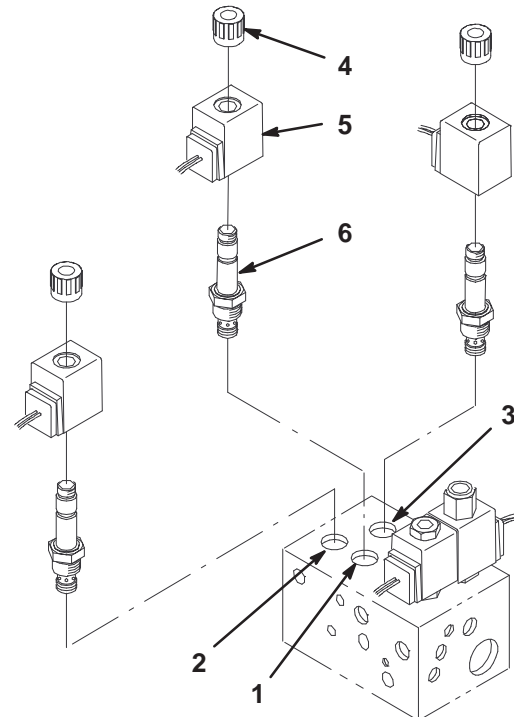

Figure 1
4. Remove the coil retention nut from solenoid valve SV3 (Fig. 1).
5. Slide the coil off of the valve and remove the valve from the valve block (Fig. 1).
9. Install the finger nut to retain the new coil (Fig. 1).
10. Repeat steps 4–9 for each solenoid valve being replaced (Fig. 1).